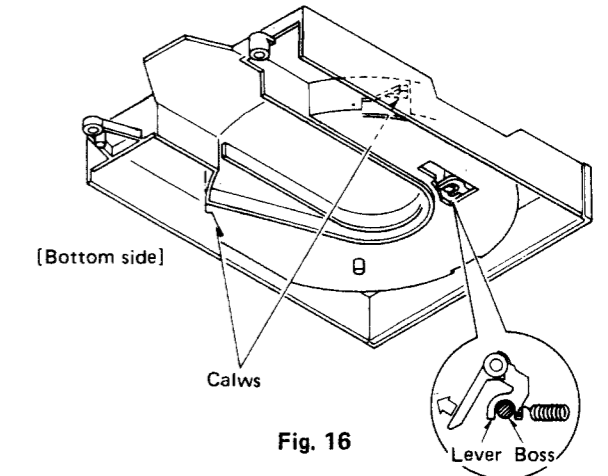

Fig. 16
* It can be easily set by pushing the lever in the direction of the arrow. [Fig. 16]